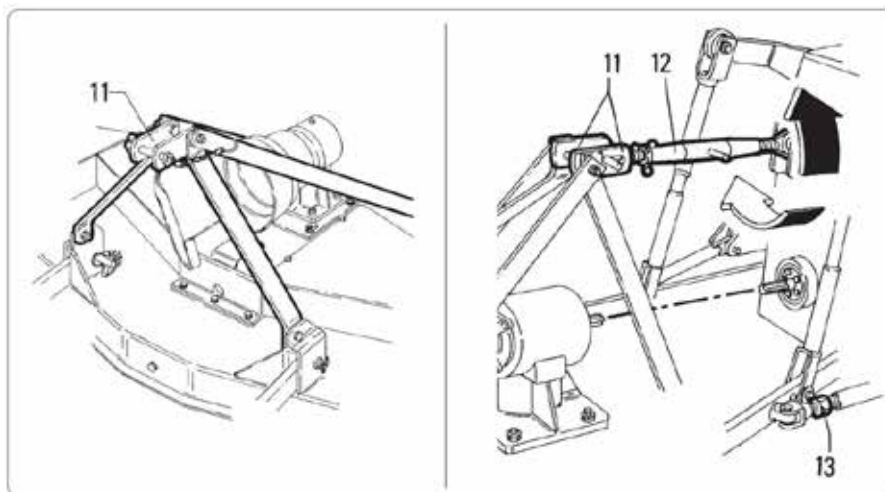

fig. 4.2.2
- Fix the upper rod "12" fig. 4.2.2 of the three-point hitch "11" and adjust it until the PTO of the implement is parallel to the ground.